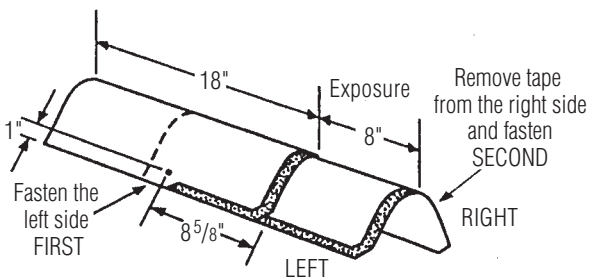

Figure 16-19: Installation of Shangle® Ridge shingles on hips and ridges.
7. Fasten each cap with two fasteners (Figure 16-19). The fasteners must be 1³/₄" long, or longer, so they penetrate either ³/₄" into the deck or completely through the deck, exposing at least ¹/₈" of the tip of the nail. Expose 8" of the Accessory along the ridge or hip line and cover all fasteners.